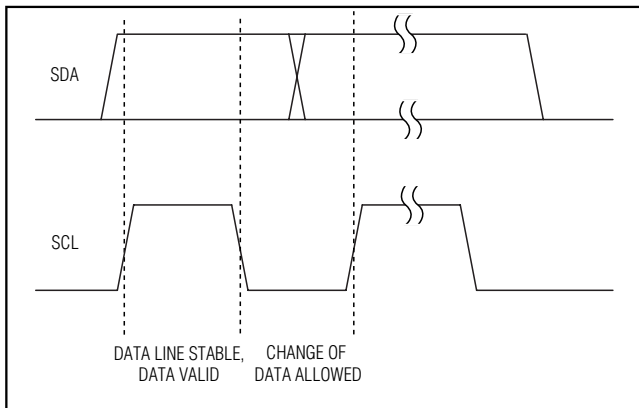
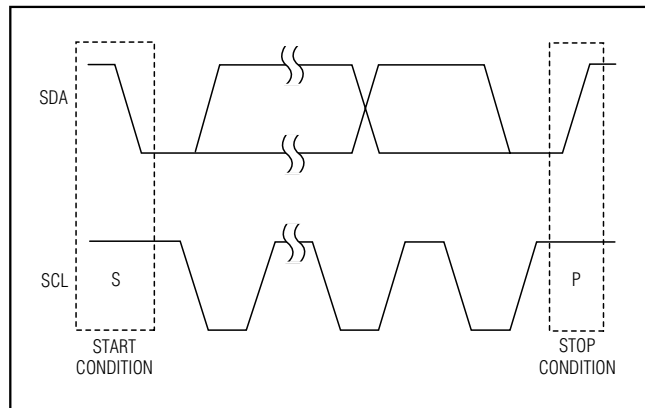
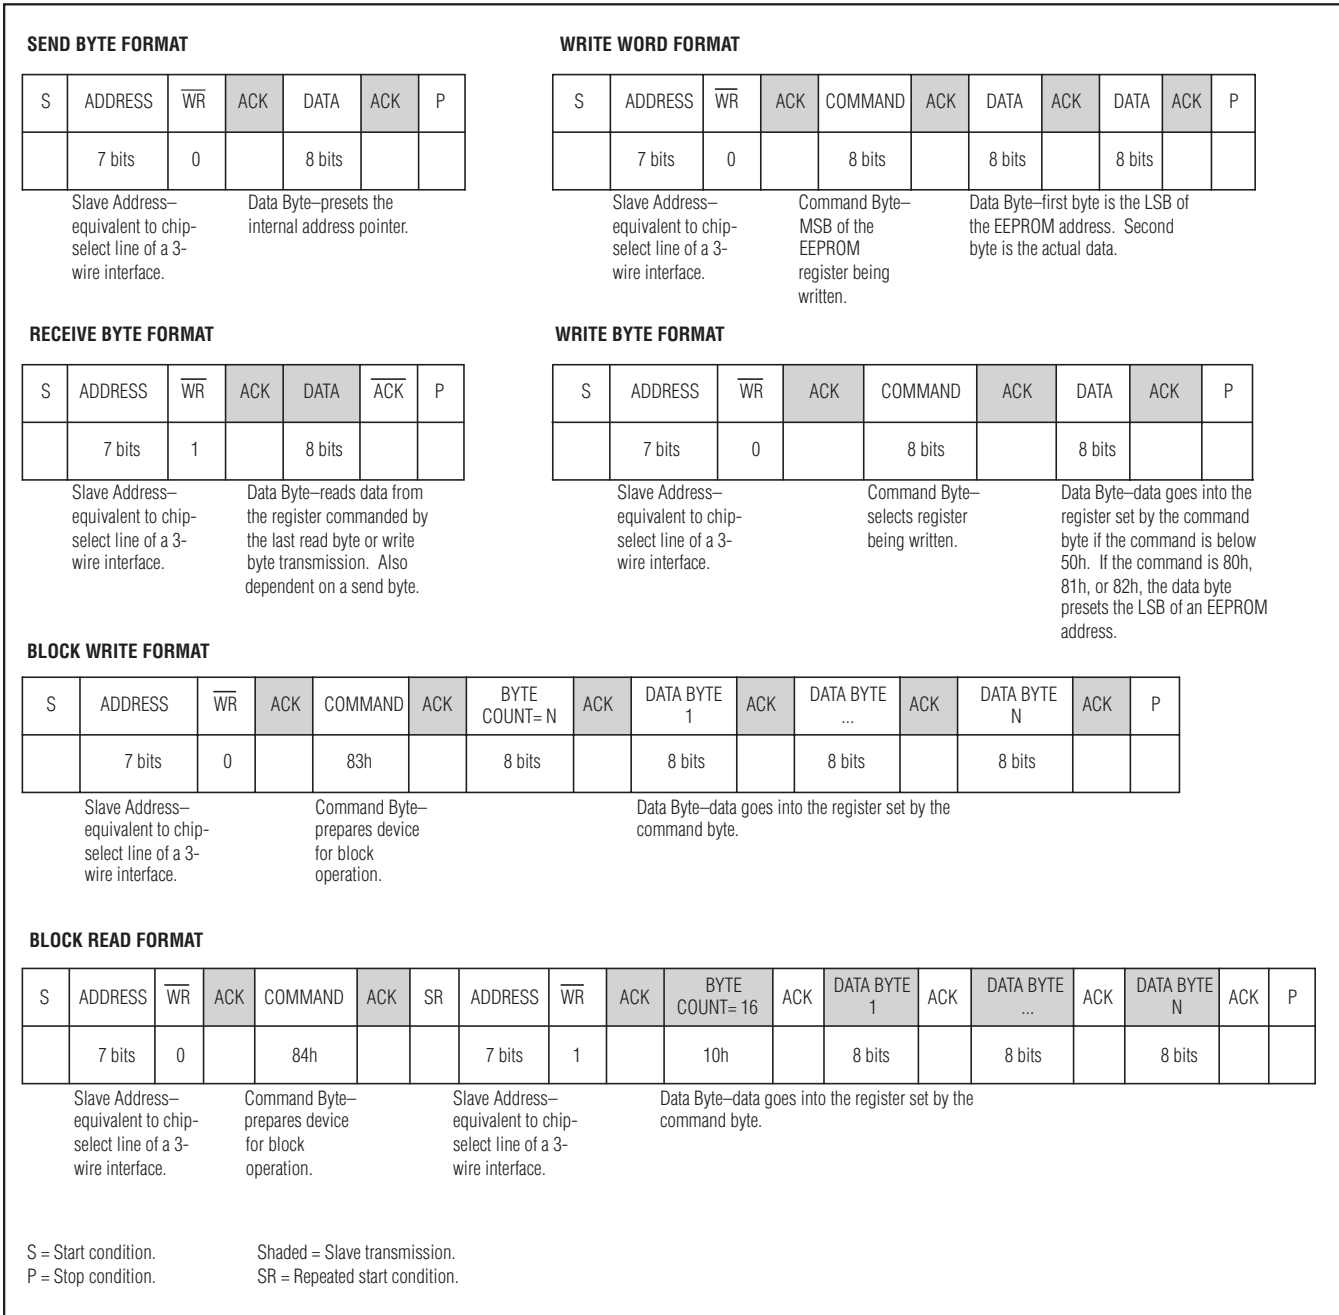

Figure 3. Bit Transfer
Figure 4. Start and Stop Conditions
Figure 7. SMBus/I2C Protocols
Each clock pulse transfers one data bit. The data on SDA must remain stable while SCL is high (Figure 3), otherwise the MAX6874/MAX6875 register a START or STOP condition (Figure 4) from the master. SDA and SCL idle high when the bus is not busy.
Both SCL and SDA idle high when the bus is not busy. A master device signals the beginning of a transmission with a START (S) condition (Figure 4) by transitioning SDA from high to low while SCL is high. The master device issues a STOP (P) condition (Figure 4) by transitioning SDA from low to high while SCL is high. A STOP condition frees the bus for another transmission. The bus remains active if a REPEATED START condition is generated, such as in the block read protocol (see Figure 7).
A REPEATED START (SR) condition may indicate a change of data direction on the bus. Such a change occurs when a command word is required to initiate a read operation (see Figure 7). SR may also be used when the bus master is writing to several I2C devices and does not want to relinquish control of the bus. The MAX6874/MAX6875 serial interface supports continuous write operations with or without an SR condition separating them. Continuous read operations require SR conditions because of the change in direction of data flow.
The send byte protocol allows the master device to send one byte of data to the slave device (see Figure 7). The send byte presets a register pointer address for a subsequent read or write. The slave sends a NACK instead of an ACK if the master tries to send an address that is not allowed. If the master sends 80h, 81h, or 82h, the data is ACK. This could be start of the write byte/word protocol, and the slave expects at least one further data byte. If the master sends a stop condition, the internal address pointer does not change. If the master sends 84h, this signifies that the block read protocol is expected, and a repeated start condition should follow. The device reboots if the master sends 88h. The send byte procedure follows:
The write byte/word protocol allows the master device to write a single byte in the register bank, preset an EEPROM (configuration or user) address for a subsequent read, or to write a single byte to the configuration or user EEPROM (see Figure 7). The write byte/word procedure follows:
The block write protocol allows the master device to write a block of data (1 to 16 bytes) to the EEPROM or to the register bank (see Figure 7). The destination address must already be set by the send byte or write byte protocol and the command code must be 83h. If the number of bytes to be written causes the address pointer to exceed 45h for the configuration register or configuration EEPROM, the address pointer stays at 45h, overwriting this memory address with the remaining bytes of data. The last data byte sent is stored at register address 45h. If the number of bytes to be written exceeds the address pointer FFh for the user EEPROM, the address pointer loops back to 00h, and continues writing bytes until all data is written. The block write procedure follows:
The receive byte protocol allows the master device to read the register content of the MAX6874/MAX6875 (see Figure 7). The EEPROM or register address must be preset with a send byte or write word protocol first. Once the read is complete, the internal pointer increases by one. Repeating the receive byte protocol reads the contents of the next address. The receive byte procedure follows:
The block read protocol allows the master device to read a block of 16 bytes from the EEPROM or register bank (see Figure 7). Read fewer than 16 bytes of data by issuing an early STOP condition from the master, or by generating a NACK with the master. The send byte or write byte protocol predetermines the destination address with a command code of 84h. The block read procedure follows:
The 512 byte user EEPROM addresses range from 8100h to 82FFh (see Figure 7). Store software-revision data, board-revision data, and other data in these registers. The maximum cycle time to write a single byte is 11ms (max).